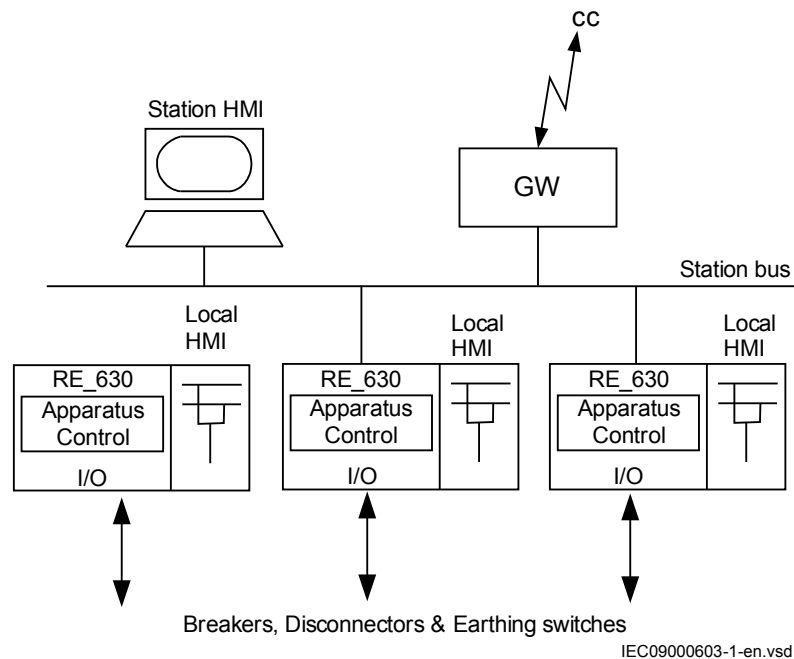

Figure 41: Overview of the apparatus control function
Figure 41 provides an overview from what places the apparatus control function receives commands. Commands to an apparatus can be initiated from the Control Center (CC), the station HMI or the local HMI on the IED front.